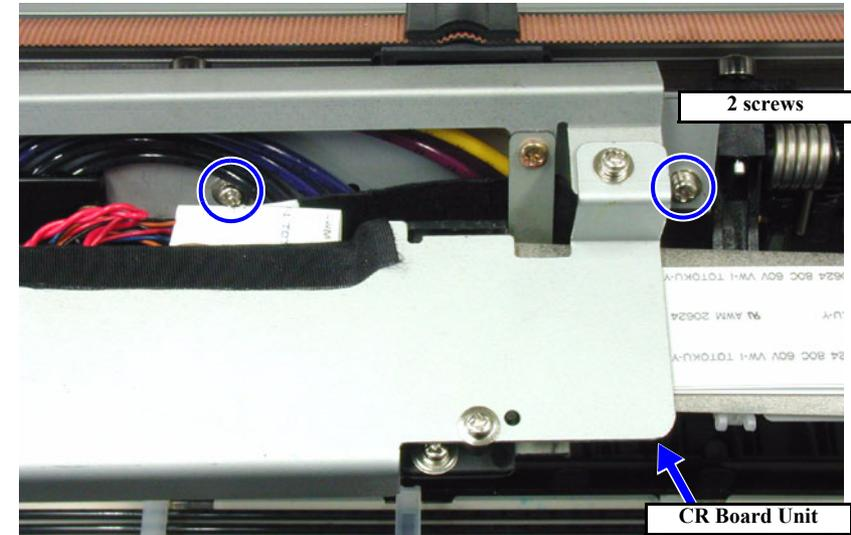

Figure 5-69. Adjusting the CR Encoder Sensor Mounting Position 1/2
2. Remove the two screws securing the CR Board Unit in the Carriage Unit, and take out the CR Board Unit toward the front. (See Figure 5-69)